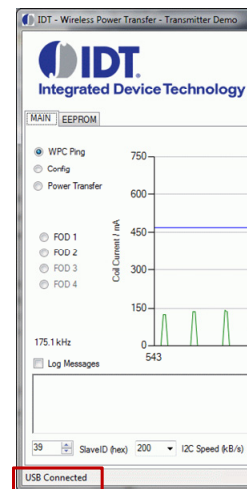

Figure 10. Windows GUI Main tab
You can verify that the IDTP9022 is properly connected to your computer and able to communicate to the evaluation board by looking at the lower left of Figure 10. It should state “USB Connected”. Otherwise it will state in Red letters: “USB Disconnected – Check Connection”.
2. Reset the JM60 by momentarily connecting a jumper wire from pin 4 on the J2 connector to ground. The USB will disconnect and reconnect on the GUI Screen (See Figure 10 left). When the wire is removed, program the EEPROM.